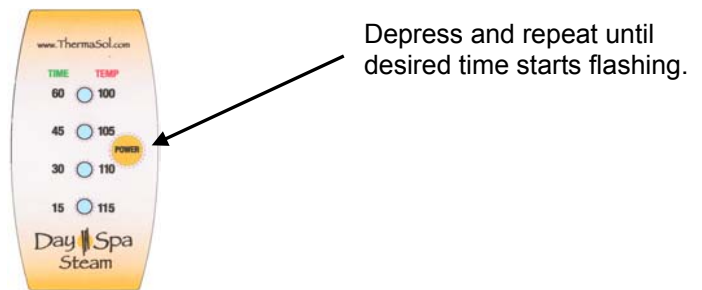

Figure 8
- 2. Changing Session Time.** While the green LED is still flashing (within 4 seconds), momentarily press the "Control Button". Repeat until the green LED associated with your desired time starts flashing. Once the desired time is flashing, wait 4 seconds and that time will be accepted by the control. **(Figure 8)**